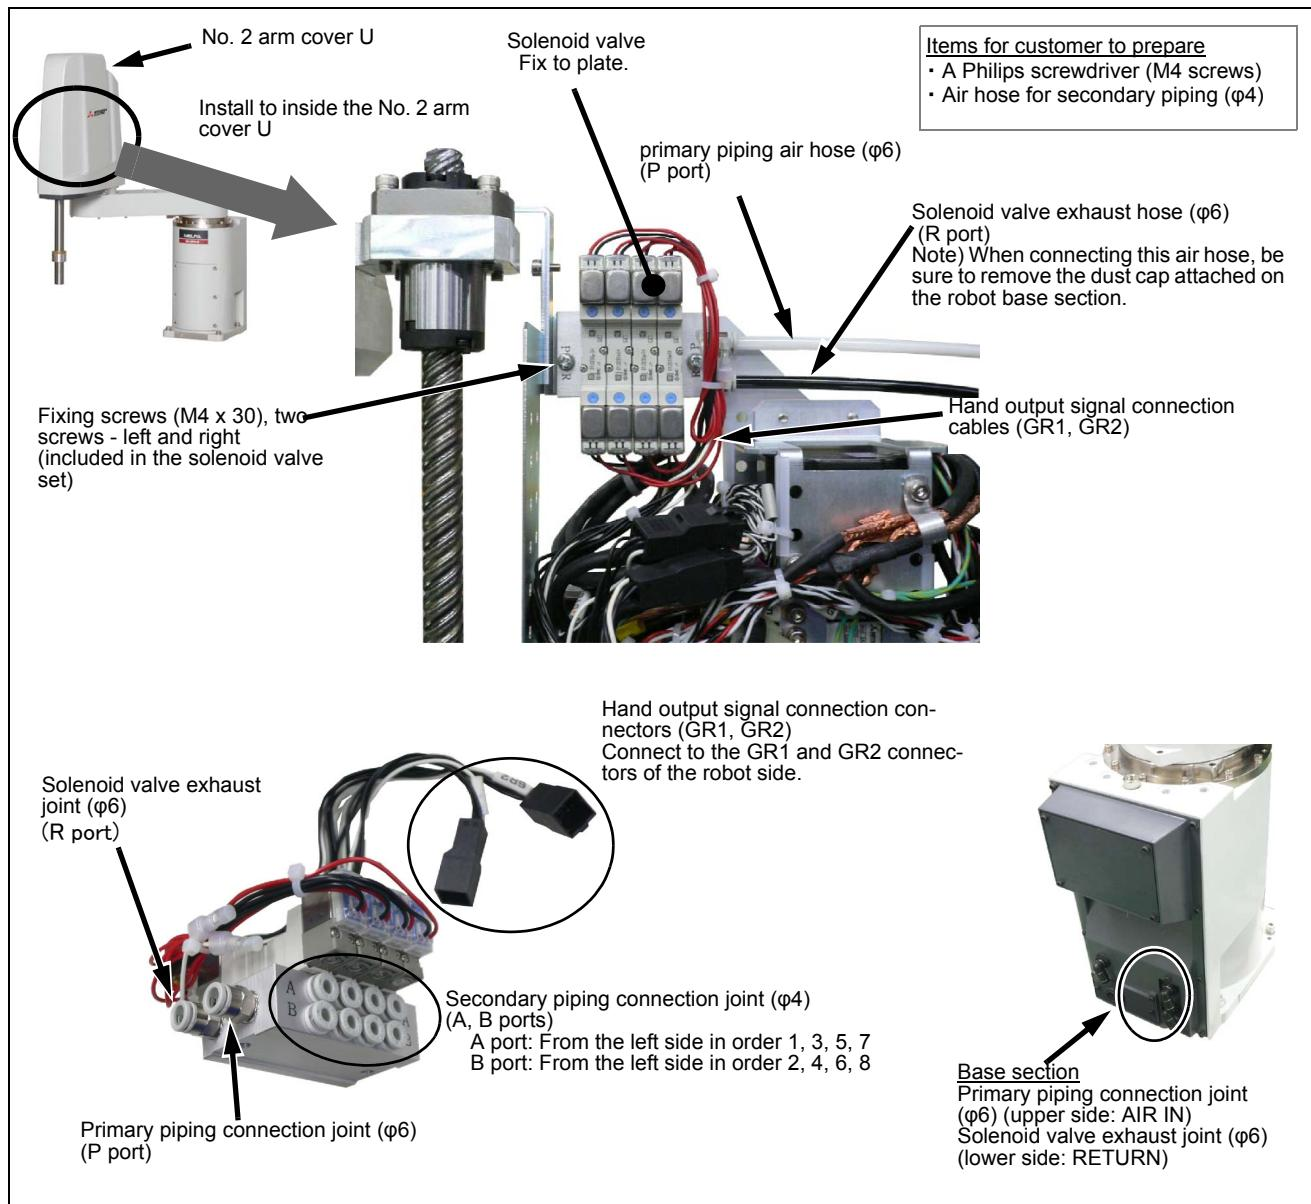
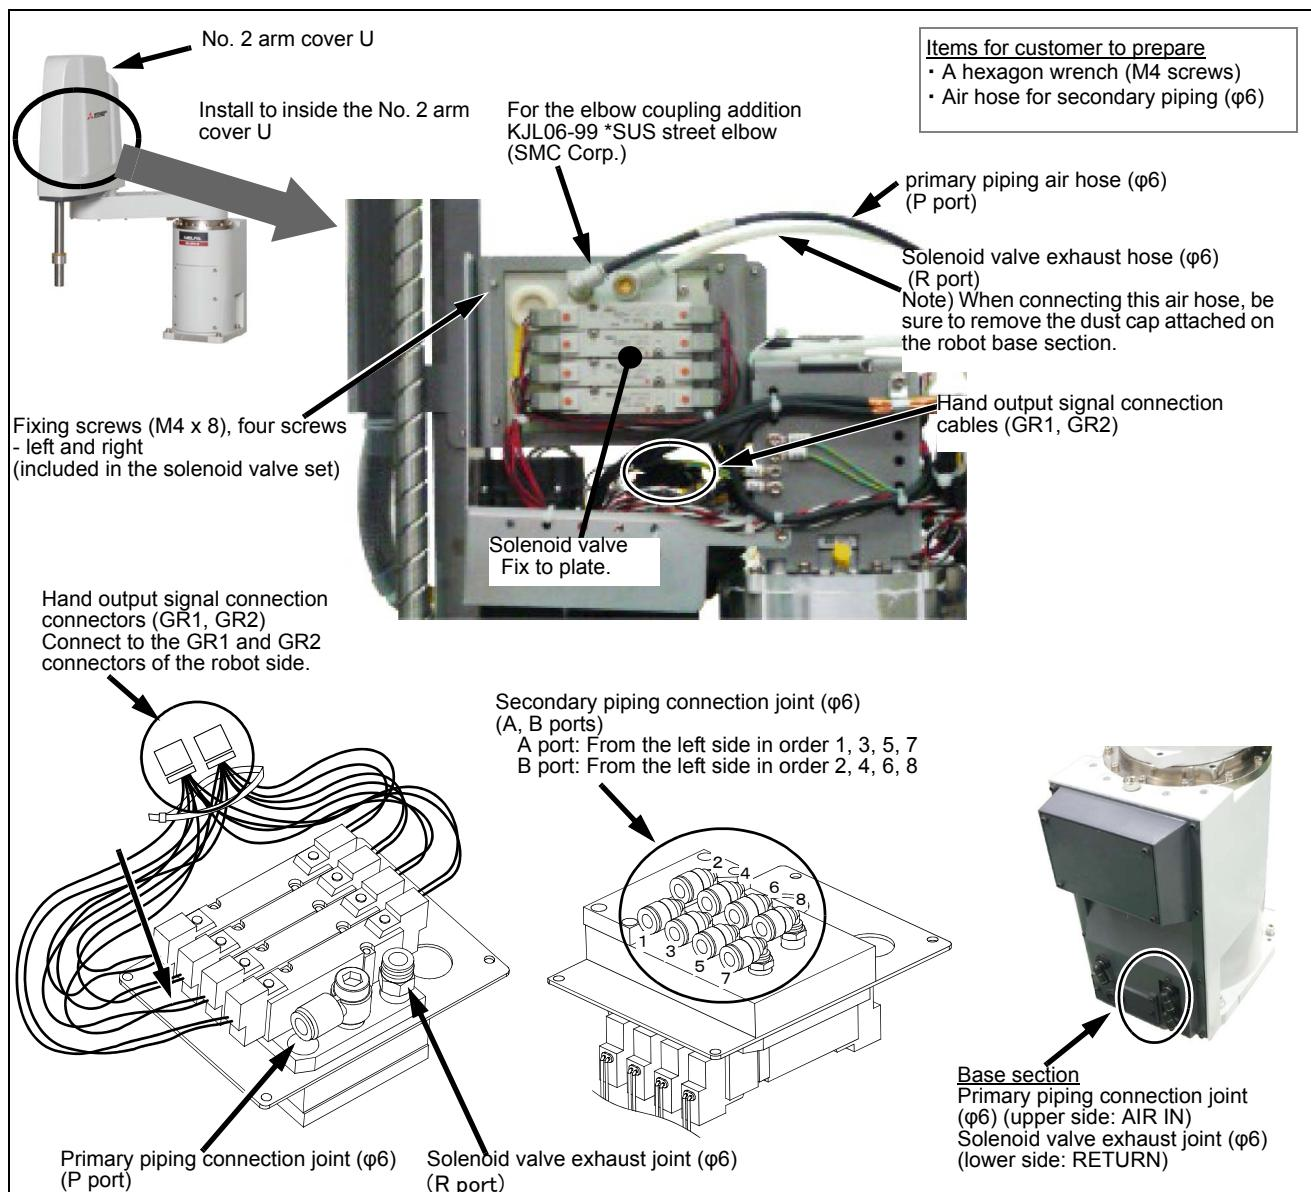

Fig.3-1 : Solenoid valve installation procedures (RH-6FH)
Fig.3-2 : Solenoid valve installation procedures (RH-12FH/20FH)
The installation summary of the solenoid valve is shown in Fig. 3-1 and Fig. 3-2. Remove the No.2 arm cover U, and install the solenoid valve on the No.2 arm. Turn the controller's power OFF before this installing operation. Refer to Page 75, "5.3.2 Installing/removing the cover" for removing/ installing the cover.
- 2) Fix the solenoid valve to the plate in the position indicated in Fig. 3-1. Place it so that the solenoid valve's primary piping connection joints (P, R ports) are located on the right hand side, and fix it securely using the M4 screws included (tightening torque: 1.39 to 1.89N · m).
- 2) Fix the solenoid valve to the plate in the position indicated in Fig. 3-1. Place it so that the solenoid valve's primary piping connection joints (P, R ports) are located on the upper side, and fix it securely using the M4 screws included (tightening torque: 1.39 to 1.89N · m).